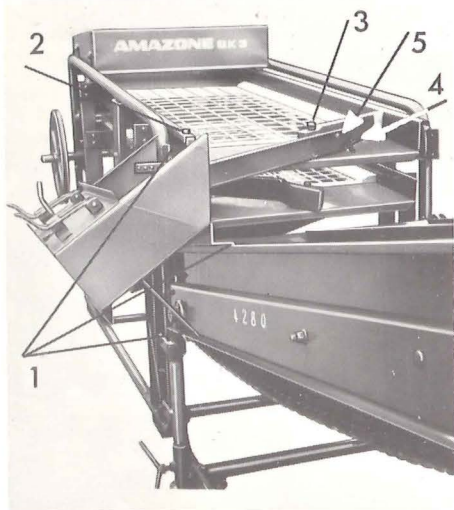

Figure 4
1. Hang in the outlet for oversizes as shown in Fig. 4/1.
2. Bolt loosely the riddle box outlet to the riddle box (Fig. 4/2).
3. Unbolt the potato guide board, place guide board extension with its fixing hole underneath the guide board as shown on Fig. 4/4 and retighten the hinge bolt again.
4. Drill a hole through both the guide board and the guide board extension and bolt them together (Fig. 4/5).
5. Now the bolt (Fig. 4/2) on the riddle box may be tightened firmly.